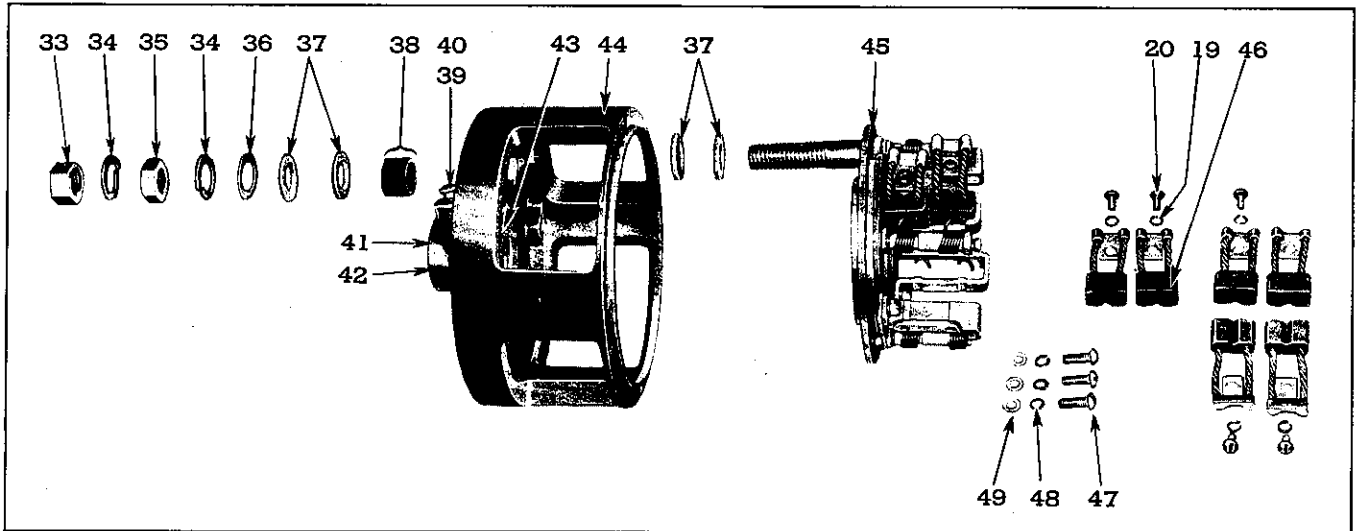

Fig. 17—Commutator End Frame Sub-Assembly.
1. Refer to Fig. 17 and unscrew terminal stud nut (35) and remove lock washer (34), plain washer (36), two insulation washers (37) and eight insulation washers (38). Unscrew six brush lead attaching screws (20), remove six lock washers (19). This allows brushes (46) to be removed from brush holders (60). Refer to (8) under "Disassembly Into Main Sub-Assemblies," for removal of other two brush lead screws (20) and lock washers (19). Unscrew three brush plate attaching screws (47), remove three lock washers (48)